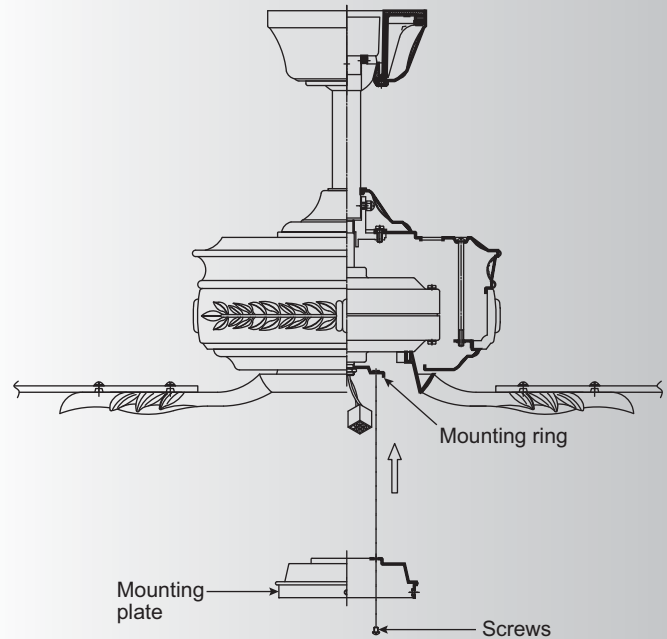

Fig. 15
1. Loosen the two screws on the mounting ring attached to the motor shaft and "remove" and save the third screw. (Fig. 15)
2. Place the key holes on the mounting plate over the 2 screws previously loosened from the mounting ring, turn mounting plate until it locks in place at the narrow section of the key holes. Secure by tightening the 2 screws previously loosened and the one previously removed. (Fig. 15)